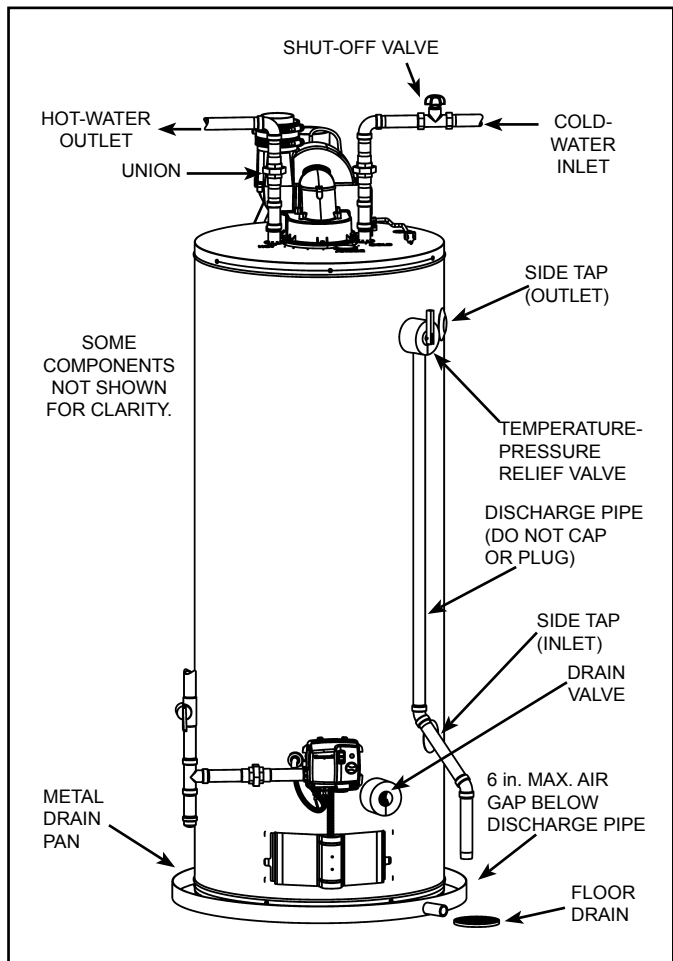

Figure 19
1. Close the water heater drain valve by turning handle to the right (clockwise). The drain valve is on the lower front of water heater (see Figure 19).